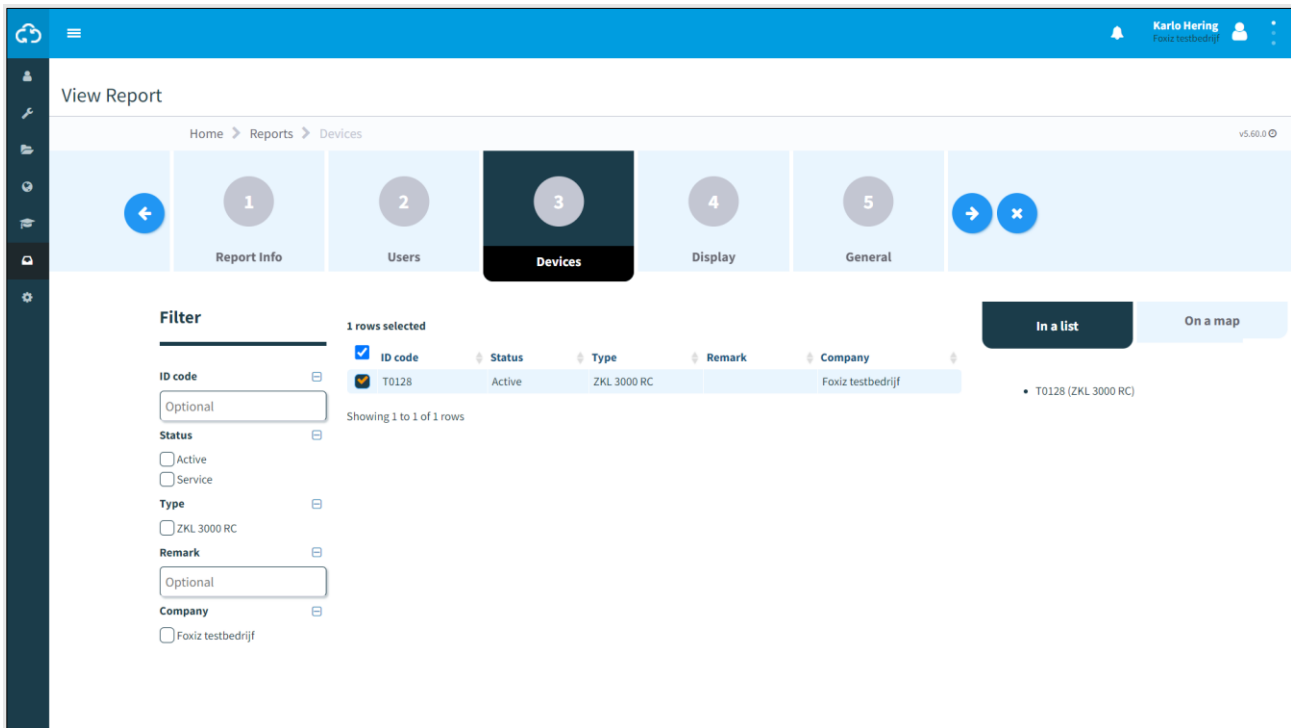

Figure 10-4: View report - devices
- Step 1 - Devices (Figure 10-4);